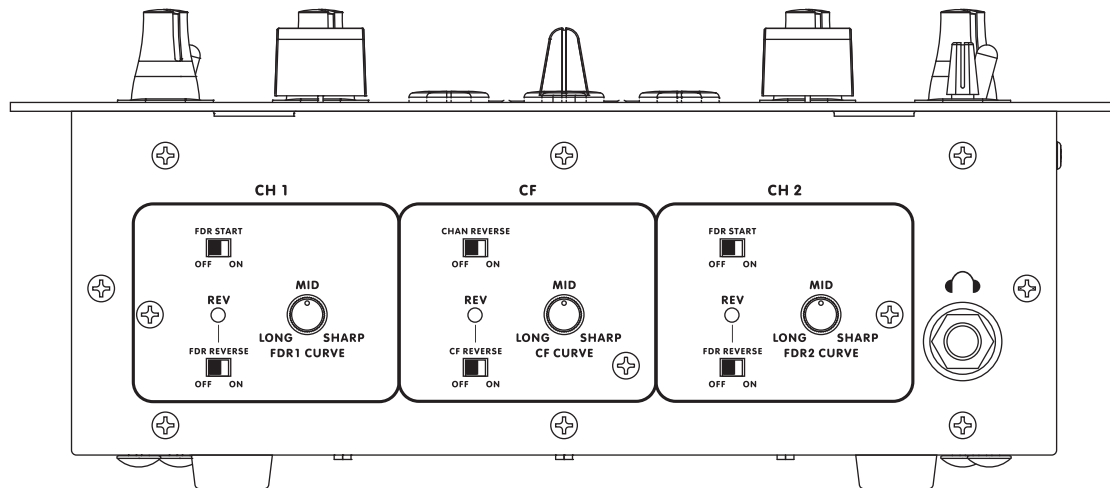

Figure 4.1
4.1 Front Panel Controls (Figure 4.1)